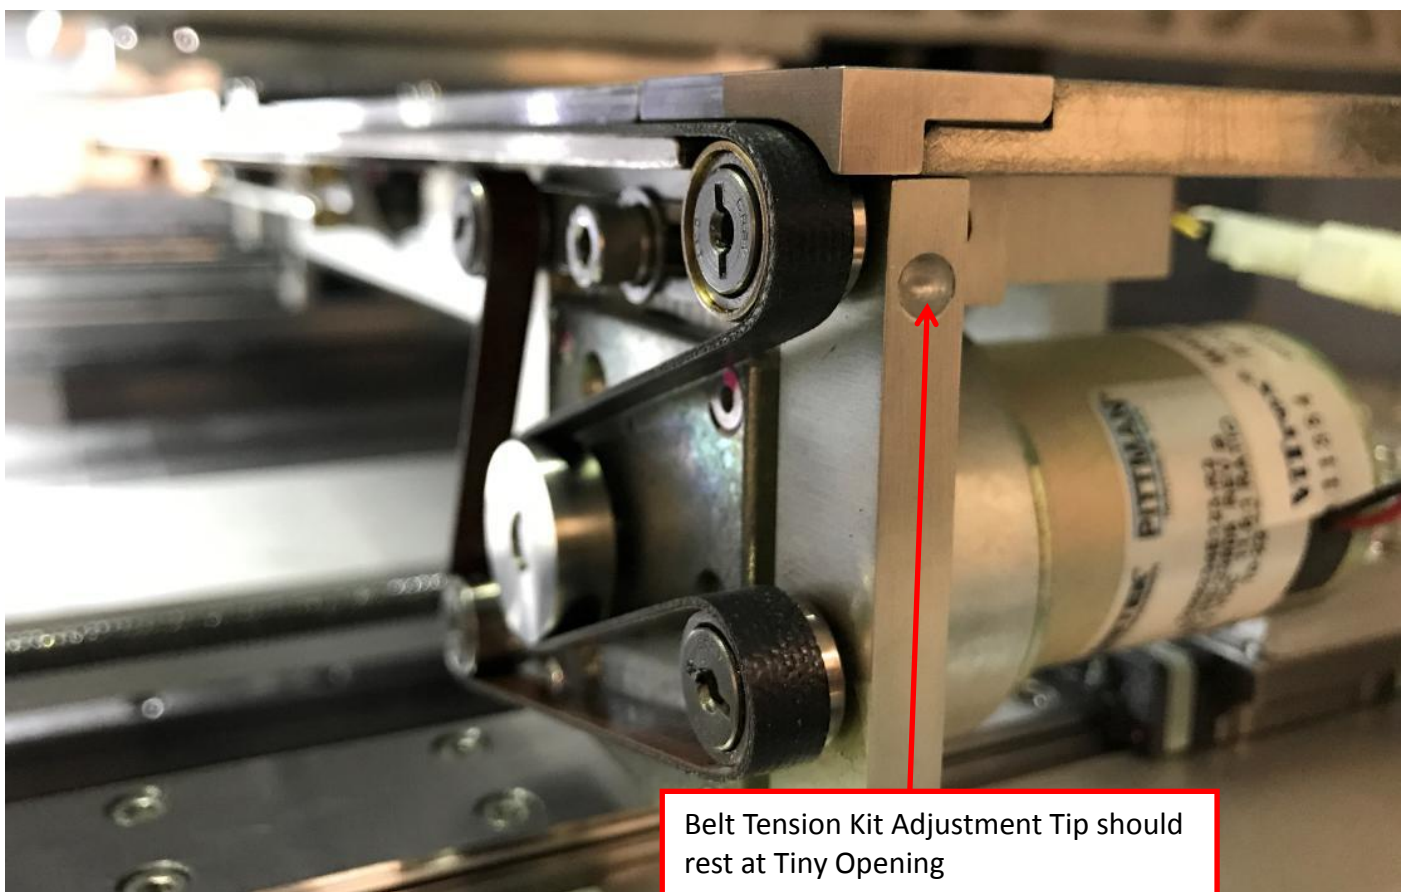
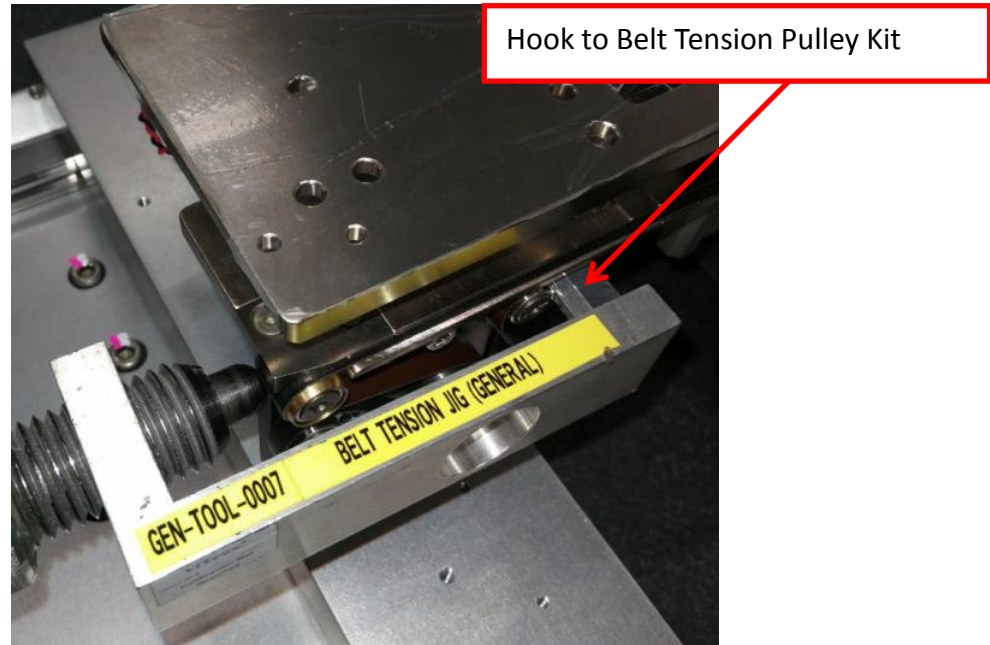

Figure 20 Belt Tension Kit
Figure 21 Belt Tension Kit
7. Gently rest Belt Tension Adjustment Tip on Tiny Opening as below Figure 20 ,while other end will require to hook with the Tension Pulley as Figure 21